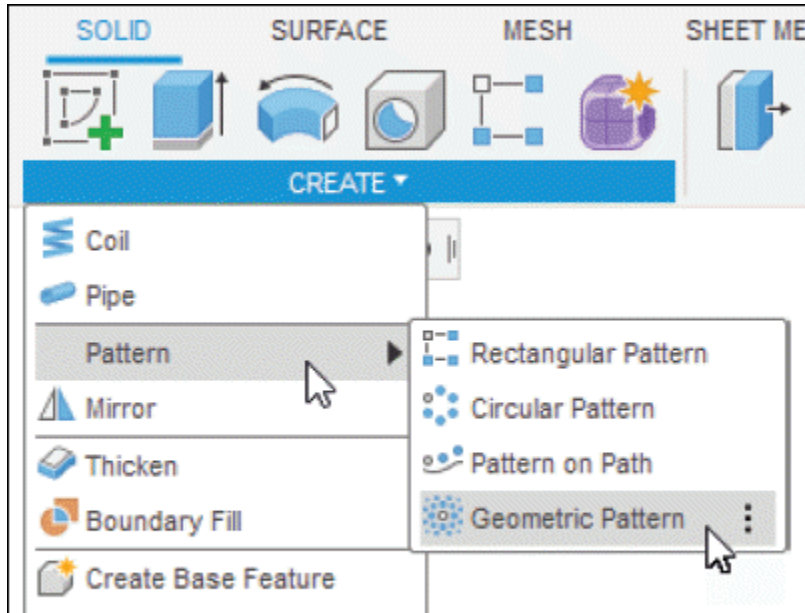
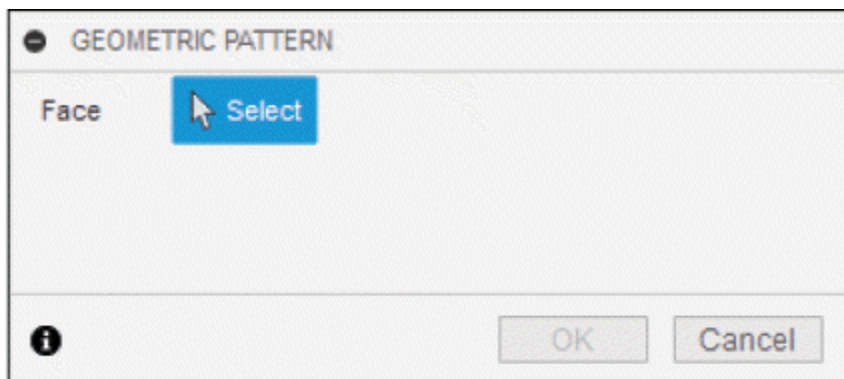

Figure-104. Geometric Pattern tool
Figure-105. GEOMETRIC PATTERN dialog box
- Click on the **Geometric Pattern** tool of **Pattern** cascading menu from **CREATE** drop-down; refer to Figure-104. The **GEOMETRIC PATTERN** dialog box will be displayed; refer to Figure-105.